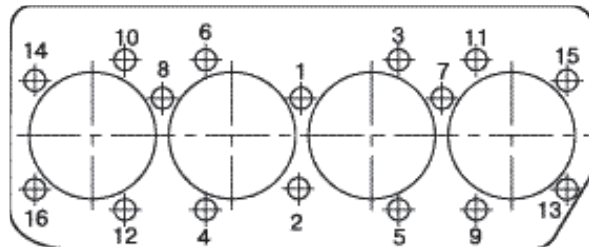

Fig. 36
- В) use a torque wrench to check tightening of all the cylinder head bolts in the order illustrated in Fig. 36. Tighten to 19-21 kgf·m (190-210 N·m) torque;